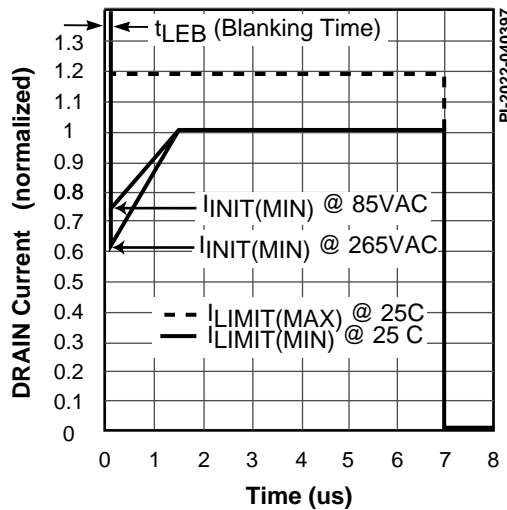

Figure 12. Drain Current Operating Envelope.
2. See Figure 12.
The following precautions should be followed when testing *TOPSwitch* by itself outside of a power supply. The schematic shown in Figure 12 is suggested for laboratory testing of *TOPSwitch*.